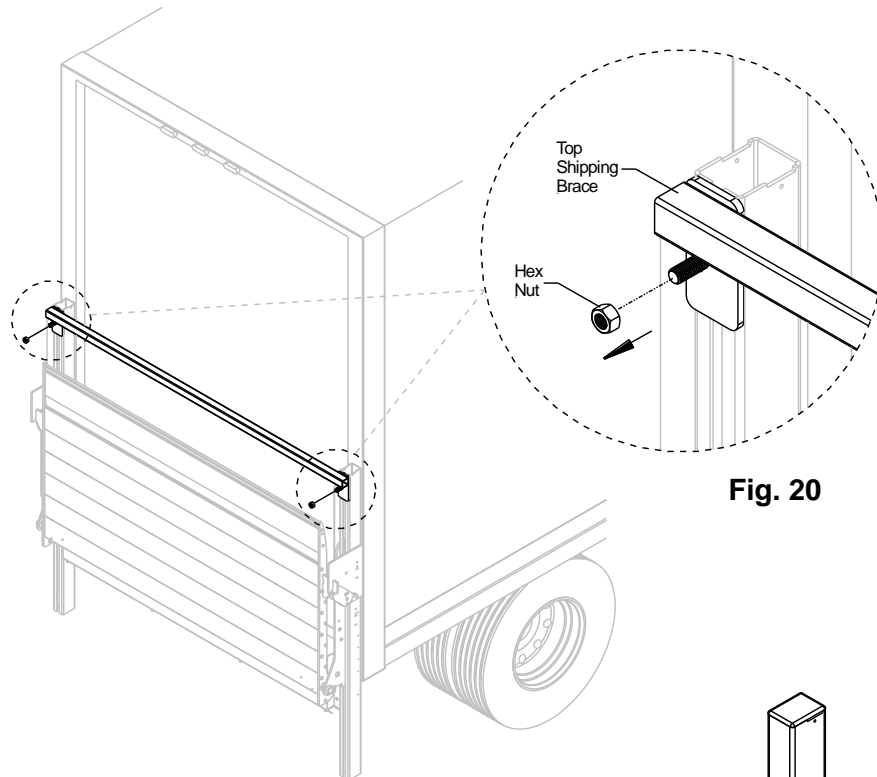

Fig. 20
1. Remove the Top Brace: Remove the top brace assembly by unbolting the two hex nuts. Discard the brace after removal, **Fig. 20**.